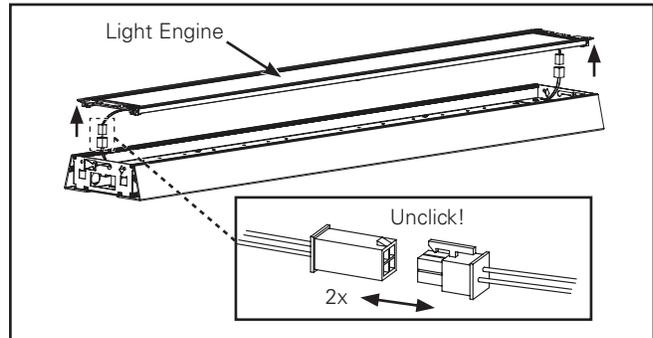
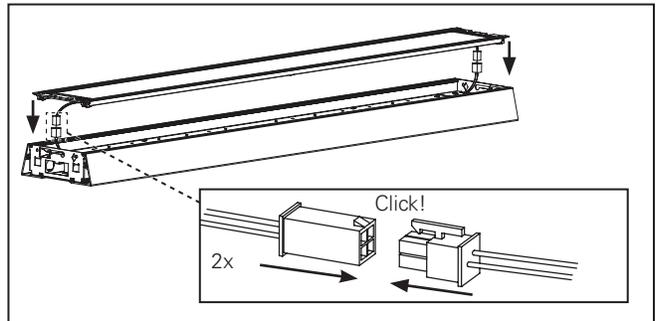
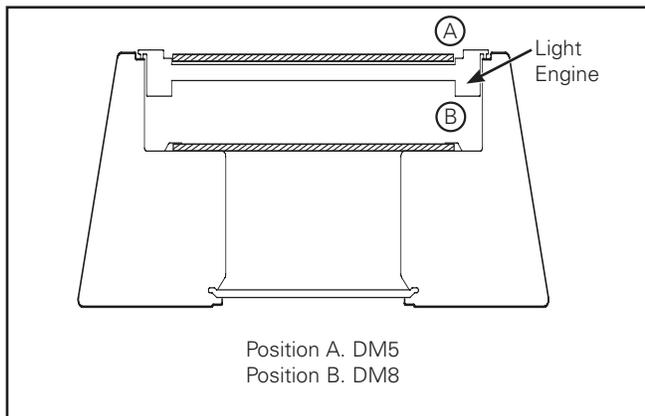

Figure 2.
Figure 11.
Figure 12.
2. Unclip the connectors on both ends of each LED light engine. (Figure 2.)
- Snap connector together at both ends of each Light Engine. Any excess wire should be tucked back through the hole inside the fixture. (Figure 11.)
Note: DM Kit can be specified and factory installed or ordered separately and installed in the field. (Figure 12.)
2. If DM5 is being installed, secure the lens above the Light Engine - position A (Figure 12).
3. If DM8 is being installed, remove Light Engine as shown in Figure 2. Secure lens into position B (figure 12). Re-Install Light Engine as shown in (Figure 11).